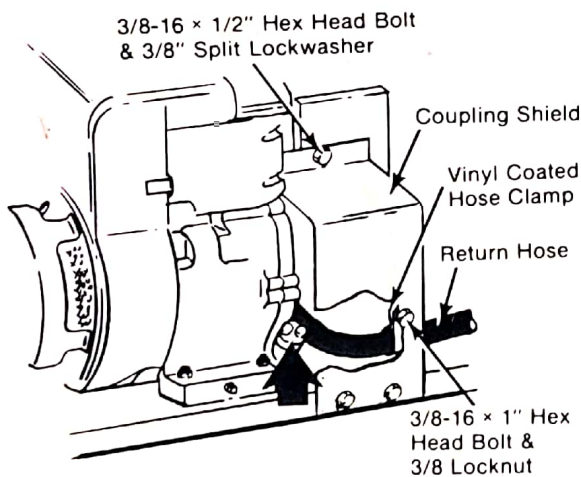

Figure 6
**Step 9)** Secure clamp over return hose as shown in Figure 6 (page 5) and attach coupling shield to rear of beam.
**Step 10)** Attach coupling bracket and ball hitch to end of beam. (See items 1, 8, 20, 21, 22 & 23 on pg. 14.)
**Step 1)** Block main beam so log splitter is level. Remove oil filler plug. (Fig. 6)